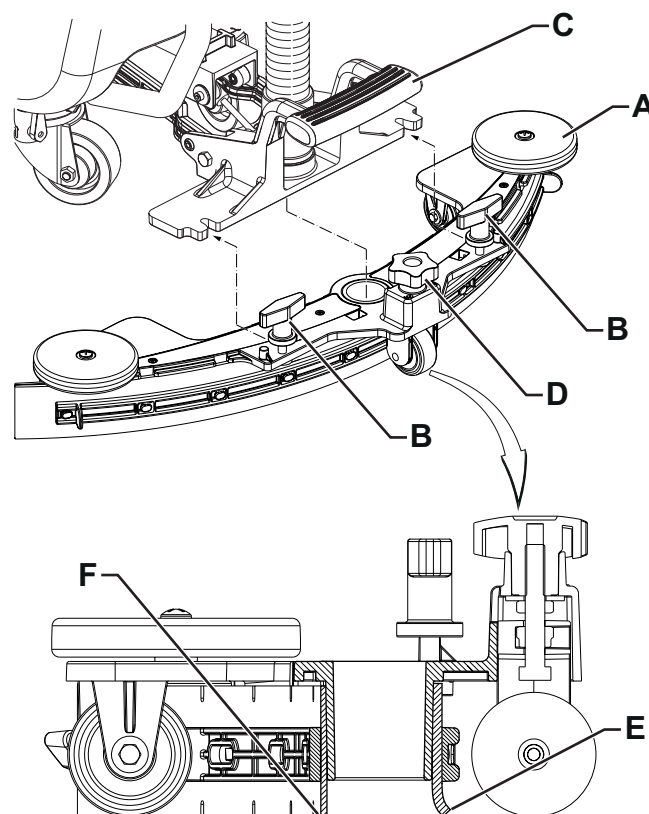

Figure 4
1. Install the squeegee (A, Fig. 4) and fasten it to the bracket (C) with the handwheels (B).
2. If necessary, adjust the squeegee with the knob (D) so that the rear blade (E) and front blade (F) touch the floor as shown in the figure.
For the first 3 flow levels (Fig. 4), the amount of solution dispensed is automatically adjusted according to the machine speed, in order to obtain a constant amount of solution per linear meter of cleaning. Level 4 (when enabled) supplies the maximum possible quantity of detergent solution, regardless of the machine speed (to enable or disable this, see the Supervisor key section in the Maintenance chapter). The level 0 closes the solution flow completely.